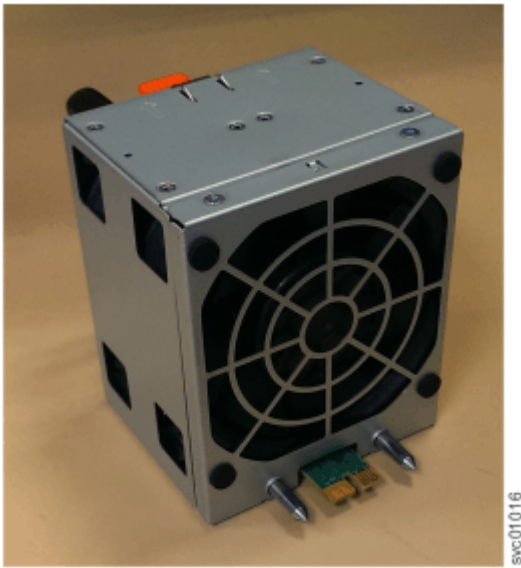

Figure 159. Fan module orientation
5. Hold the fan module with the release tab on top and the connector pin on the bottom, as shown in Figure 159 on page 205.